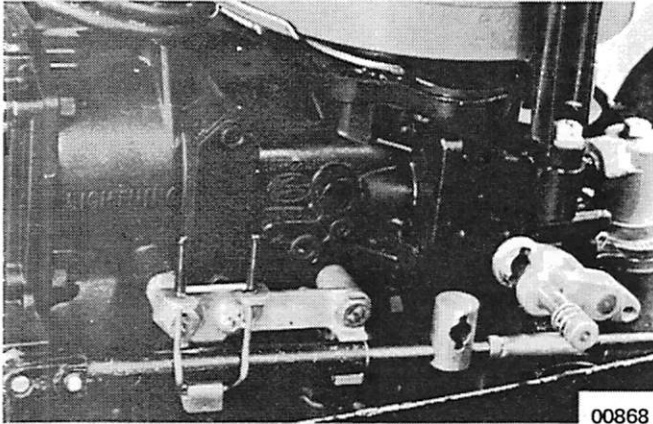

Figure 3. Fastening Shift Cable End
3. With motor in neutral gear, place cable end guide over peg on cylinder head cover. The cable passes under the shift lever clevis. Fasten cable end in place by latching "hairpin" spring clamp. (Figure 3)